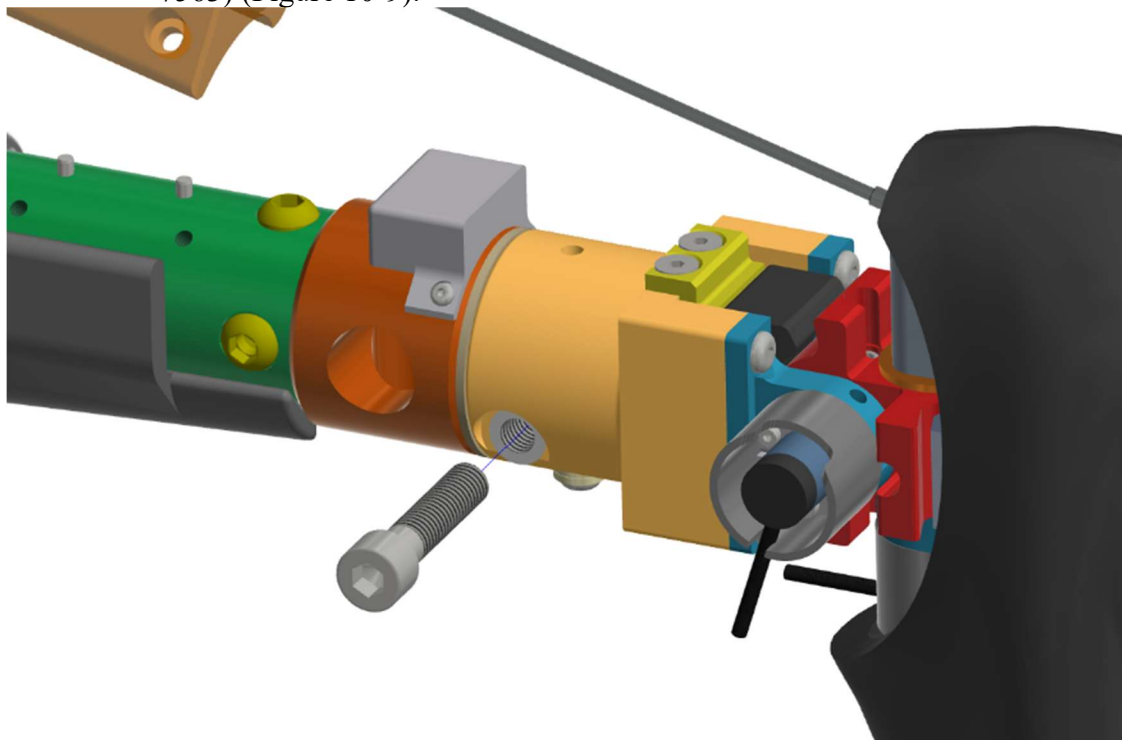

Figure 10-9. Separate the Lower Tibia Load Cell (SA572-S104) from the Upper Ankle Adaptor (474-5820-1,2)
10.2.5 Separate the Lower Tibia Load Cell (SA572-S104) from the Upper Ankle Adaptor (474-5820-1,2) by removing the Ankle Bolt & Sleeve Assembly (472-7563) (Figure 10-9).